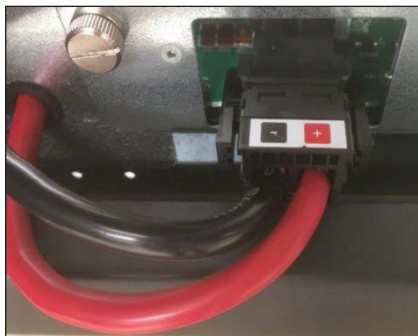
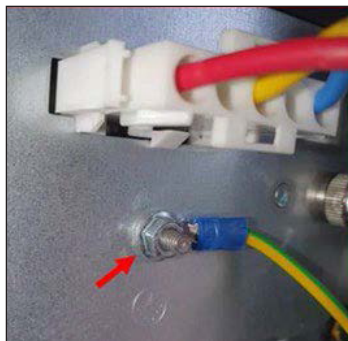

Figure 36
Figure 37
9.1.8. Reconnect the DC output cable (Figure 36) and AC input power cable (Figure 37) that were disconnected in step 9.1.2.
9.1.9. Reconnect the ground cable that was disconnected in step 9.1.3 with an M4 flange nut and tighten it with 18.5 in-lbs (2 Nm) of torque (Figure 37).